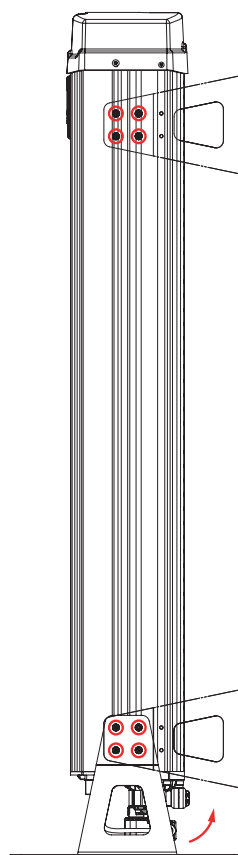

Figure 2
- Align the additional wall mounting brackets with the four mounting holes located near the top of the dryer (see figure 2).